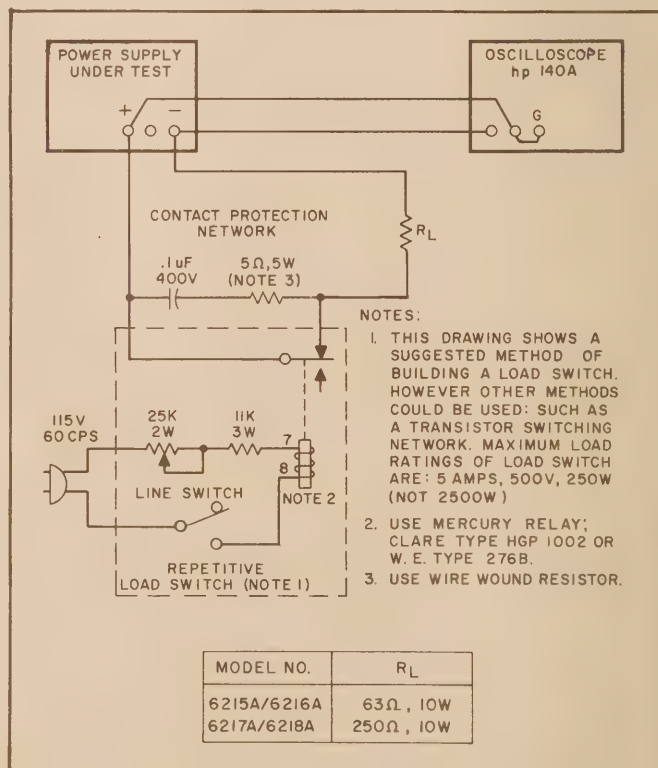

Figure 5-9. Transient Recovery Time, Test Setup
5-43 A mercury-wetted relay, as connected in the load switching circuit of Figure 5-9 should be used for loading and unloading the supply. When this load switch is connected to a 60 Hz AC input,
5-44 The maximum load ratings listed in Figure 5-9 must be observed in order to preserve the mercury-wetted relay contacts. Switching of larger load currents can be accomplished with mercury pool relays; with this technique fast rise times can still be obtained, but the large inertia of mercury pool relays limits the maximum repetition rate of load switching and makes the clear display of the transient recovery characteristic on an oscilloscope more difficult.
- a. Connect test setup shown in Figure 5-9.